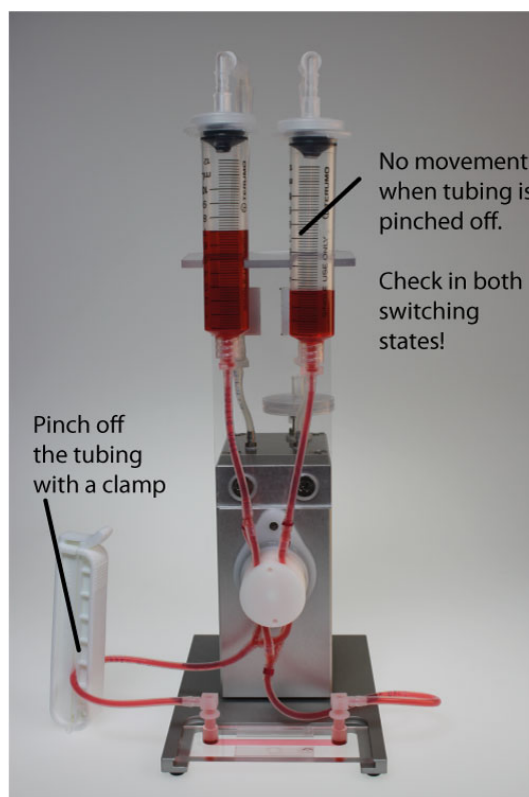

Figure 29 – Pinch–test for checking the correct insertion of the tubing into the valve.
2. Pinch the tubing in the lower loop near the Female Luer Coupler (Figure 29).